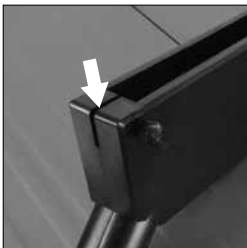

Fig. 12
- The guards locating pin should be positioned through the hole machined in the top edge of the riving knife **(Fig. 12)**. A wing nut is fitted to one side of the top guard.